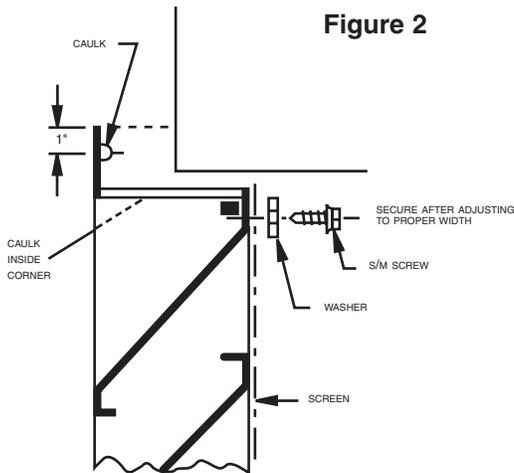

Figure 2
4. Once the unit is adjusted to the desired width, drill each louver on rear, 1" from the seam, and attach screen and both louver sections using provided hardware. (See Figure 2)
5. Caulk louvers on rear of face flange on top, bottom and sides and inside top and bottom corners prior to installation to prevent water from entering the building as shown in Figures 2 and 3.